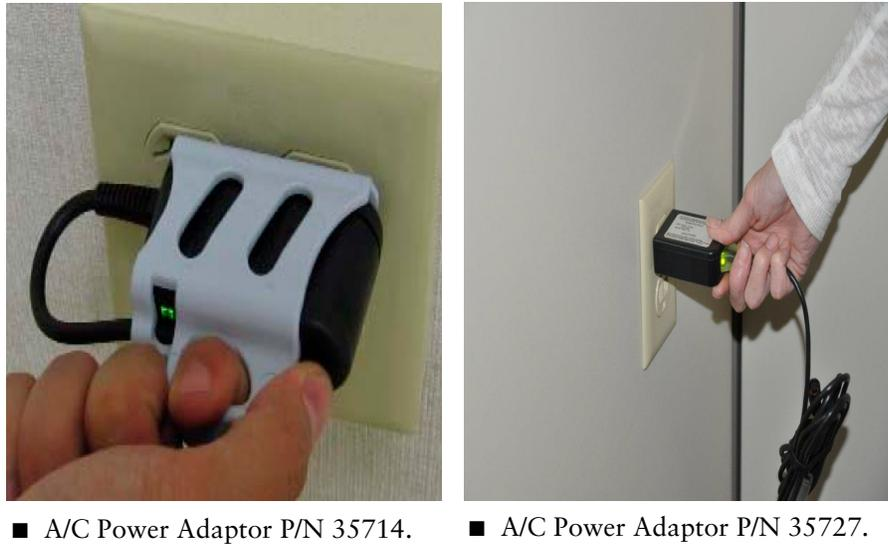

Figure 9. Pull the adaptor straight out.
2. The green LED on the Power Adaptor is on when the adaptor is plugged into a powered wall outlet. (See Figure 9.)
To remove the AC Power Adaptor, grasp the handle of the Protector and pull it back from the receptacle in a straight direction. (See Figure 9.).